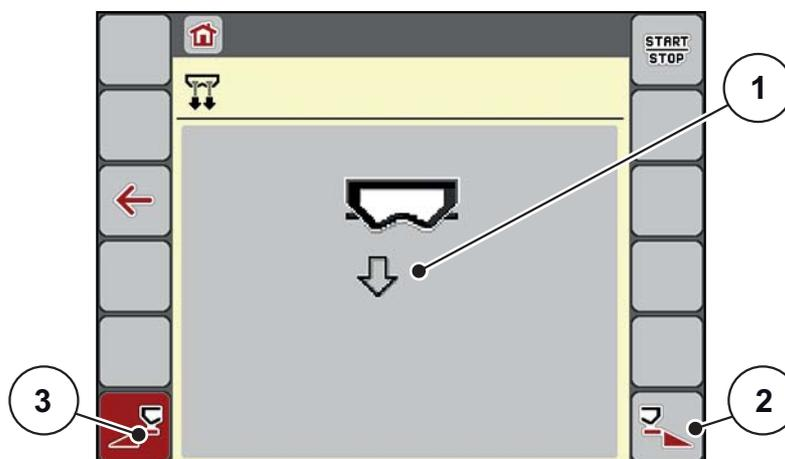

Figure 4.10: Fast emptying menu
- ▷ The selected section width is displayed as a symbol (Figure 4.10, position [2]).